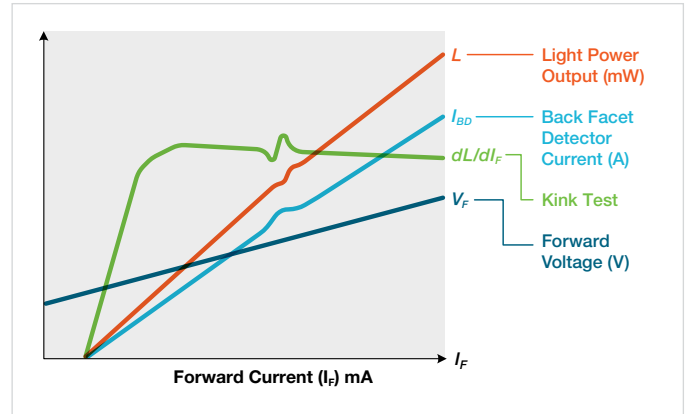

Figure 5. Typical Suite of LIV Curves.
This test verifies the proportionality of the relationship between the drive current (I_F) and the light output (L) as depicted in **Figure 5**.